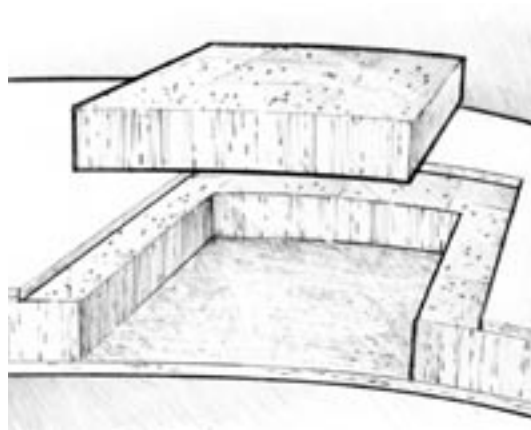

Figure 5-6 Fit a new piece of core material to match the shape, thickness and density of the damaged section that was removed.
5. Prepare a new piece of core material to match the shape, thickness and density of the core that was removed. Dry fit the core to ensure the new piece is the correct size, i.e., no higher than the surrounding core (*Figure 5-6*). When replacing damaged core material, try to purchase the same material used by the builder. If that is impossible, locate a core material which is as close as possible to the original thickness and density. It is better to have a slightly thinner core material than a thicker one.